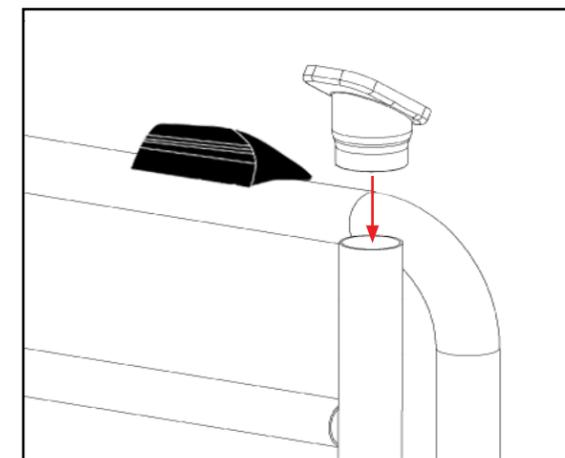

Figure 1B
- To attach the Front Stability Feet, first determine which is the right and left stability foot by the imprinted letters "R" and "L" on each foot. Place each foot on the frame so that the letters face inward towards each other (Figure 1B).